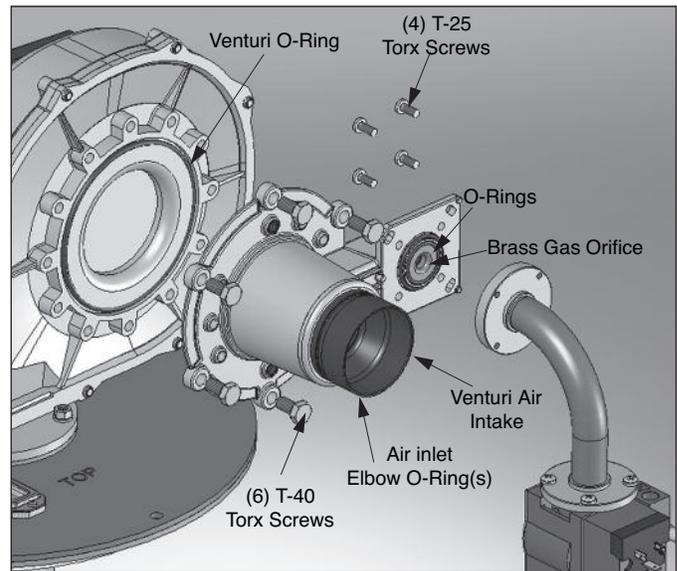

Fig. 2: Venturi/Gas Orifice Assembly
9. Remove the six T-40 Torx screws securing the venturi to the blower. See Fig. 2.